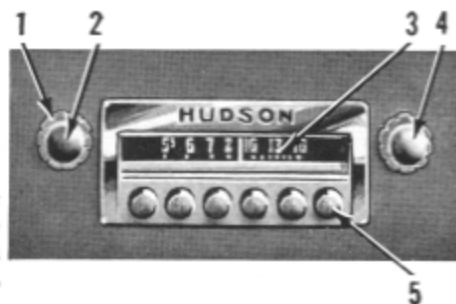

Figure 59
The tone control ring (1) is located directly behind the volume control knob (Figure 59). Rotating this control to the right or left will change the tone of the receiver. The treble position is useful in overcoming wind, noise, etc., when driving, while the bass position brings out the full mellow tones of musical programs. With the tone control set midway, the full tonal range is obtained. Turning to the right will emphasize the high notes, while turning to left will emphasize the bass notes.